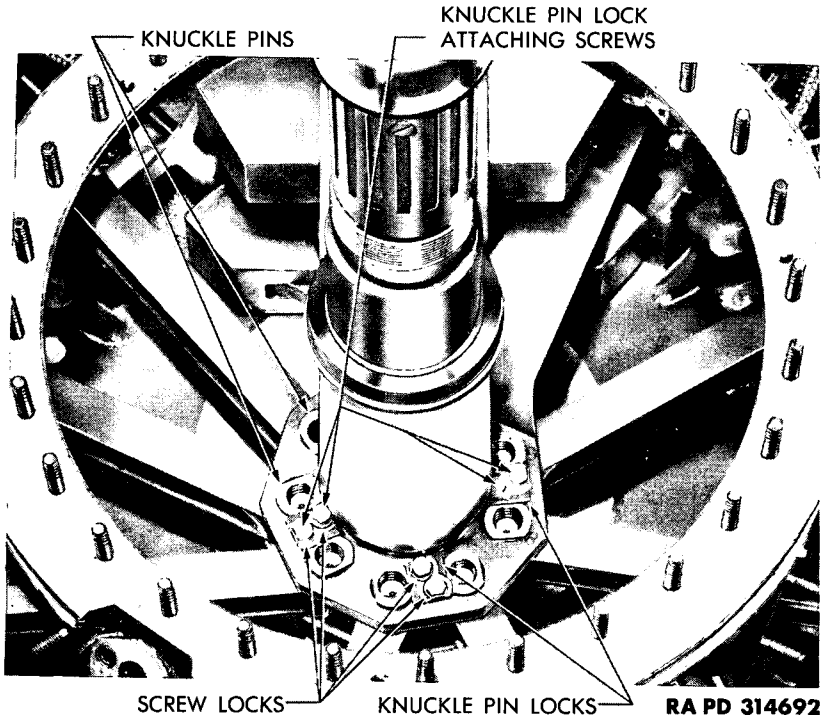
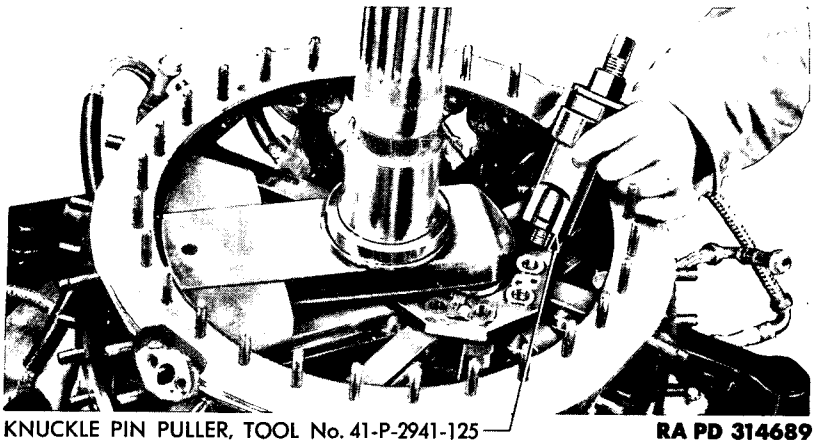

Figure 64 – Knuckle Pin Locks and Bolts
Figure 65 – Installing Knuckle Pin Puller
t. Remove Articulated Rods. Working through top (front) of main crankcase section, bend down screw locks which secure articulated rod knuckle pin locks (fig. 64). Turn crankshaft so that counterweights are exactly opposite knuckle pins to be removed. Remove two cap screws, screw locks, and knuckle pin locks. Insert threaded end of puller (41-P-2941-125) into knuckle pin (fig. 65). Install